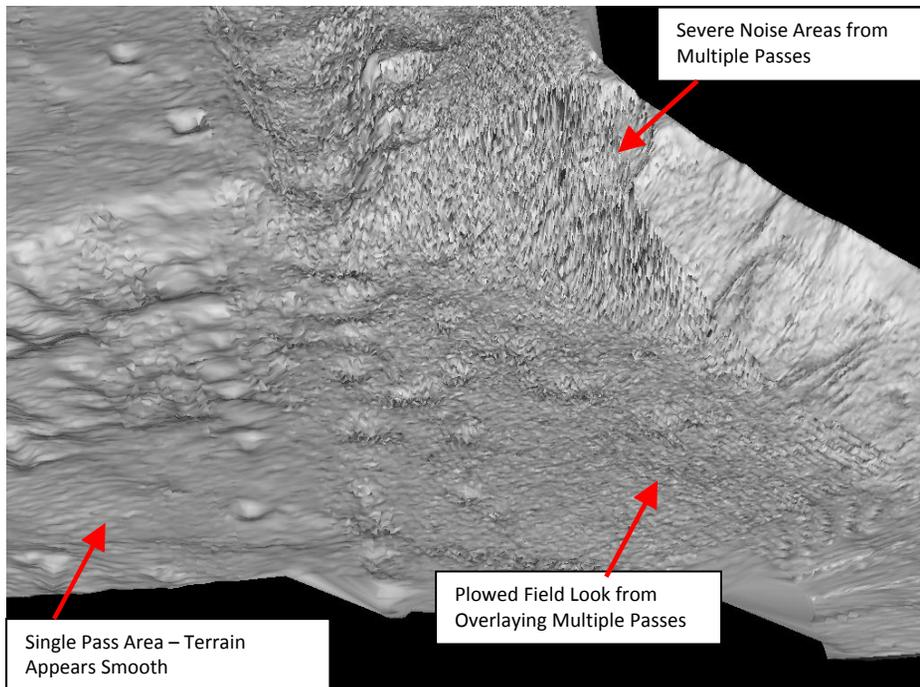

Figure 8. Survey Results
- Figure 8 is an isometric view showing unfiltered "noise" that shows up as rake-like ridges